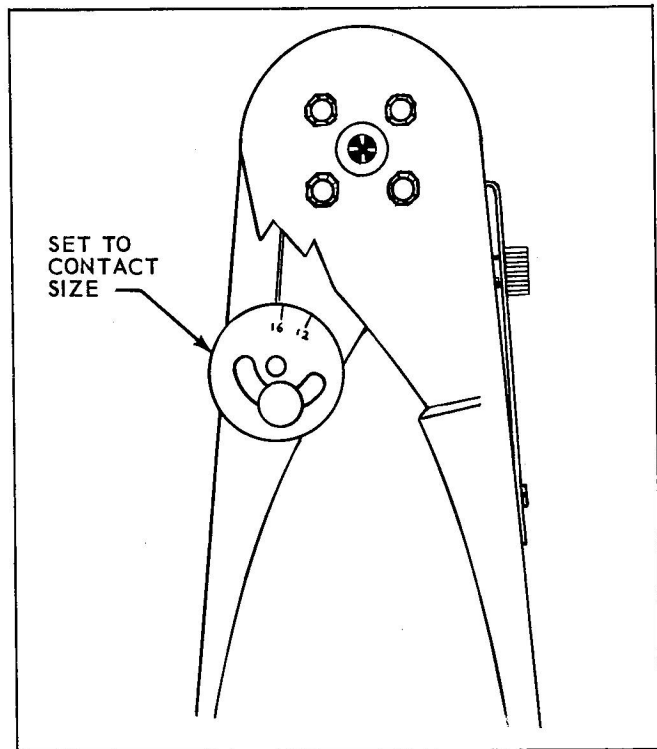

Figure 3-55. Adjustment of Bendix Scintilla 11-3284-1 Crimping Tool for Contact Diameter
1. Set eccentric stop to #16 or #12 to match contact size. See Figure 3-55.